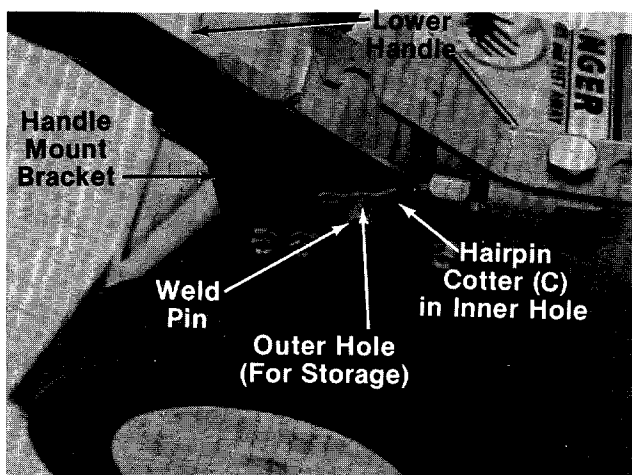

FIGURE 2.
- ← A (2) Hand Knobs (Folding Handle Only)
- B (2) Curved Carriage Bolts 5/16-18 x 1.75" Long
- C (2) Hairpin Cotters
- D (2) Cable Ties
- E (2) Lock Washers (Non-Folding Handle Only)
- F (2) Hex Nuts (Non-Folding Handle Only)
3. Place lower handle in position over weld pins in handle mount brackets on deck. Make certain the instruction label on the lower handle can be read from the operating position. Secure by placing two hairpin cotters (C) in inner hole on weld pins. See figure 2.